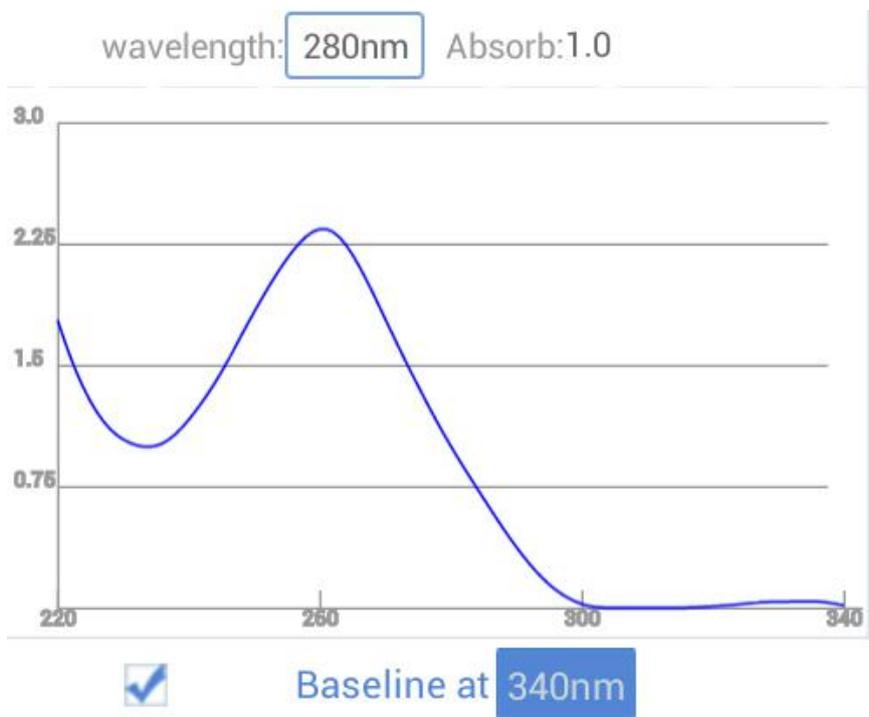

Fig 4.12 Protein detection curve
- 4) wavelength: Absorb:1.0 : Click it to input the wavelength and then the absorbance of it will be displayed as Fig 4.12.